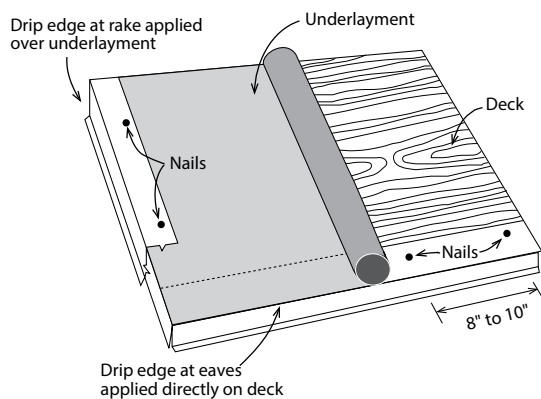

Figure 3-5
Apply the drip edge underneath the underlayment along the eaves and over the underlayment on the rakes. Figure 3-5 details the placement and fastening of drip edge in combination with the underlayment. The use of a drip edge is strongly recommended and may be required by local building codes. If no drip edge is used, then all rake and eave overhangs should be $\frac{3}{8}$ " to 1" in width.
1. All underlayment goes on top of drip edge. [See Fig 3-5 and 3-6]